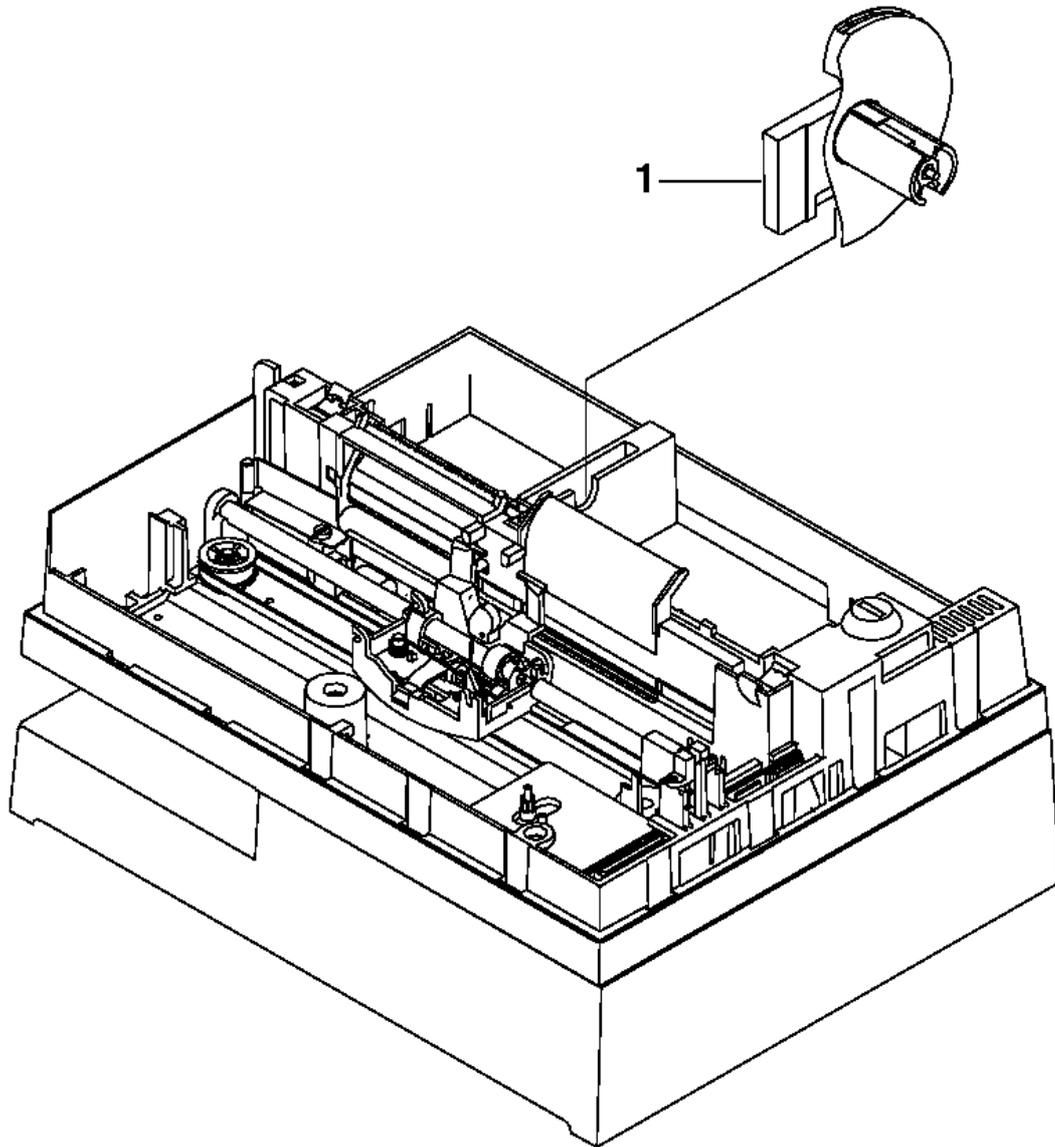

Figure 5-19. Journal Paper Spool and Clutch. For illustration, the top cover has been removed. Removal of the cover is not necessary for this procedure.
1. Put the paper spool and clutch assembly (1) into the slot shown in Figure 5-19.